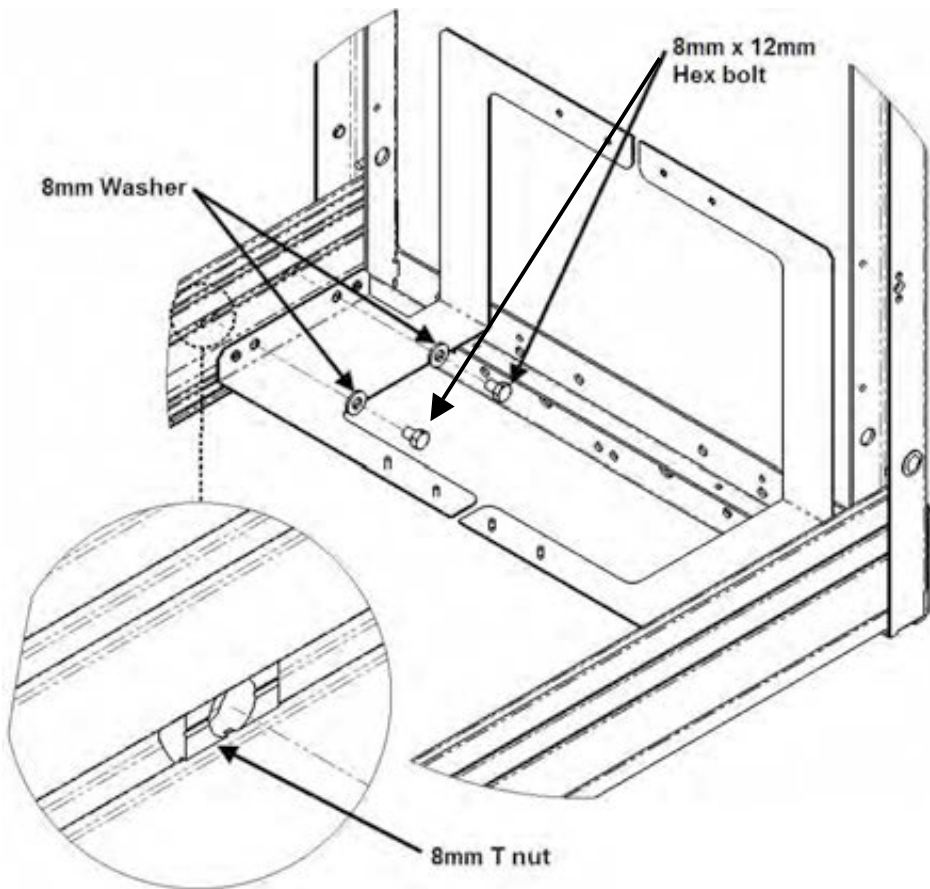

Figure 2
2. Attach each side bracket to the cabinet side frame members using the hardware included in the kit. (Fig. 2)
3. Slide the director as far to the rear as possible and hand tighten the hex bolts. (Fig. 2)